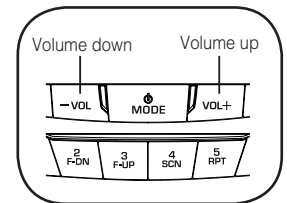

Figure 4
3. The volume level of telephone conversation can be adjusted by pressing the volume up [VOL +] or volume down [VOL -] button (Figure 4).
3. Volume of BT Music can be adjusted by volume buttons (Figure 4).